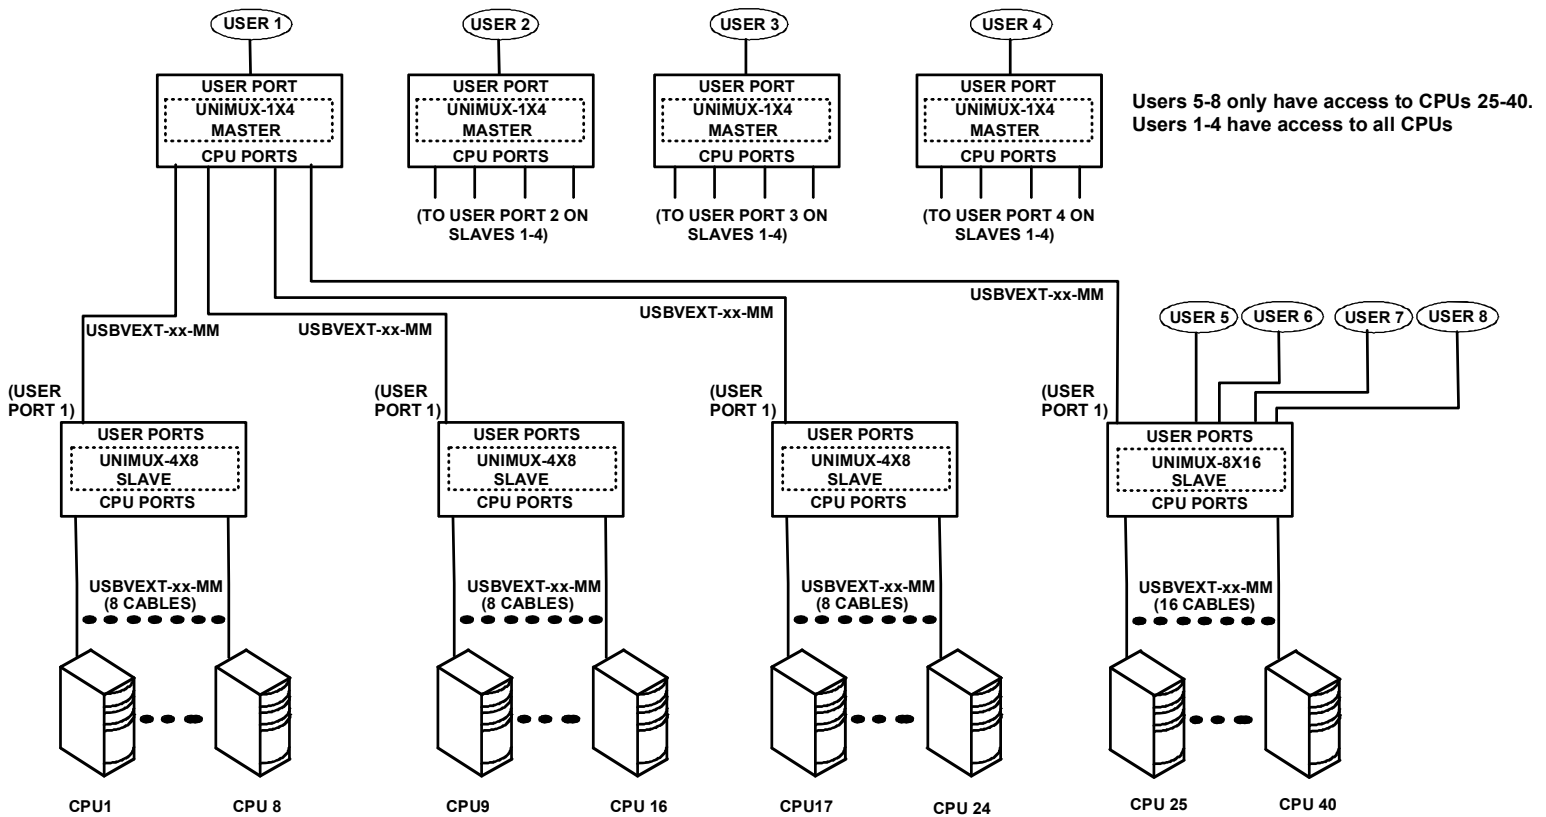

Figure 34- Cascaded configuration with multi-user slaves
**FYI:** Any **USER** and **MONITOR** ports on a multi-user switch connected as a slave that do not get connected to the master can be connected to by users (for example users 5-8 in Fig. 30). Users connected to a slave downstream from the master will control only the CPUs directly connected to that slave switch (i.e. users 5 and 6 in Fig. 34 above can only control CPUs 25-40).